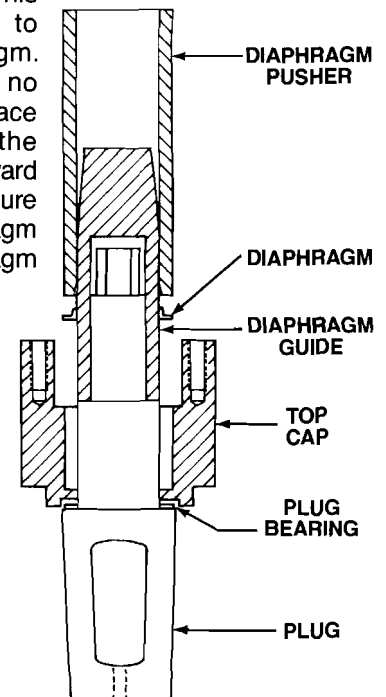

FIGURE VB-4
5. The plug bearing is to be placed on the plug as shown in Figure VB-4. The plug stem and the stuffing box counterbore of the top cap must be repolished, if necessary, until a surface finish of 16 RMS is achieved.
6. The top cap is placed on the plug as shown in Figure VB-4. Care must be exercised to insure that the plug stem is not scratched as the top cap is lowered onto the plug.
7. Install the diaphragm guide over the plug stem. This guide must be used to install the diaphragm. Make sure there are no nicks on the guide. Place the diaphragm over the guide and push downward over the guide. See Figure VB-4. Push the diaphragm down using the diaphragm pusher.